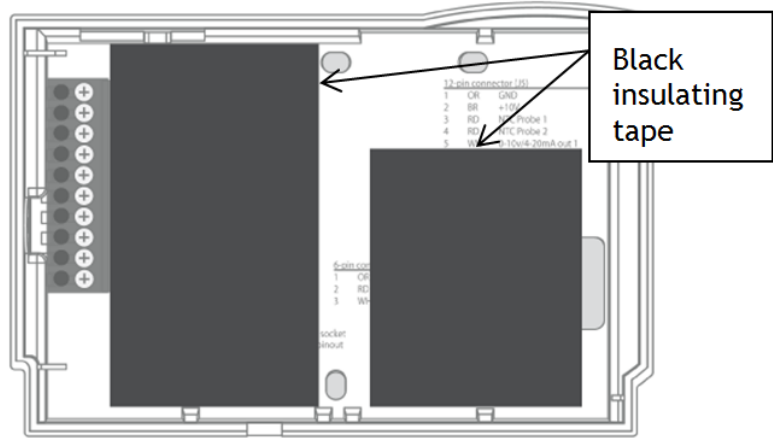

Figure 20: EcoSource Backplate with UL-Rated Insulating Tape
- Step 28 Ensure no airflow from the JBOX or wall cavity is able to seep into the thermostat through the wire harness. Telkonet recommends the use of UL approved caulk or UL rated insulating tape to avoid false temperature readings. Figure 20 illustrates sections of insulating tape on the backplate, covering the wall opening.
- Step 40 Ensure no airflow from the JBOX or wall cavity is able to seep into the thermostat through the wire harness. Telkonet recommends the use of UL caulk or UL rated insulating tape to avoid false temperature readings. Figure 20 on page 20 illustrates sections of insulating tape on the backplate, covering the wall opening.